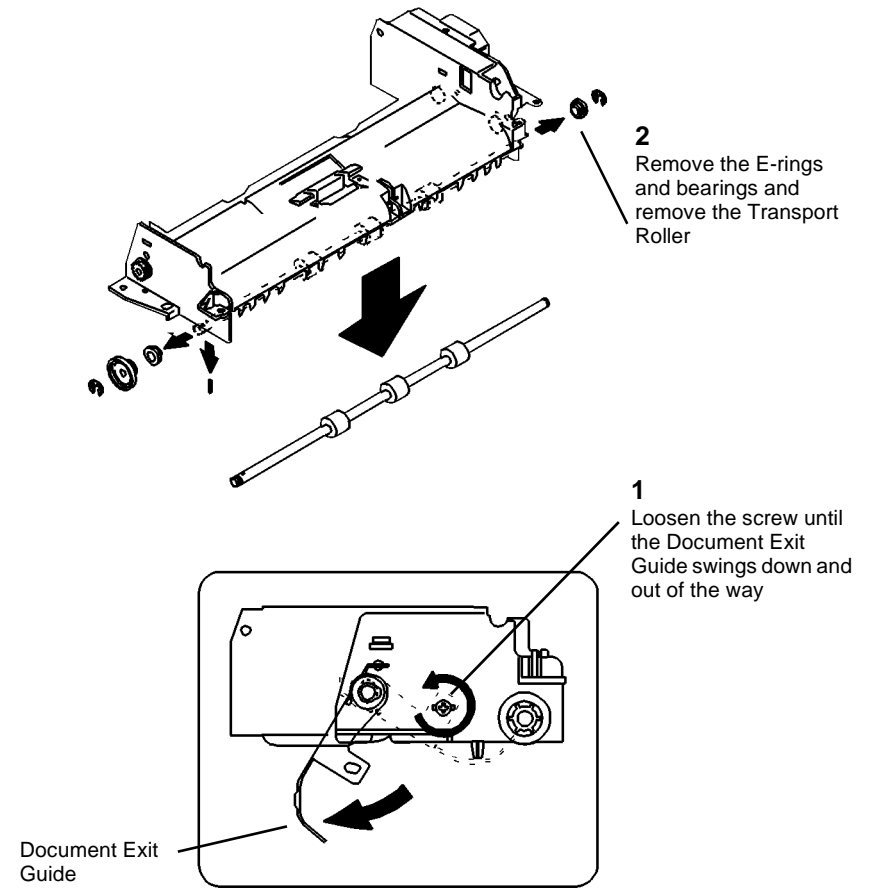

Figure 5 Removing the Transport Roller
5. (Figure 5): Remove the Transport Roller.